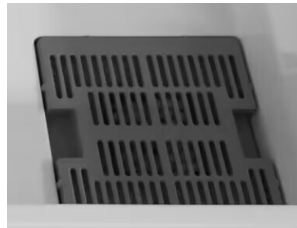

Figure 2
3. Silver ion filtration system, as shown in figure 2, which can make the water clear without yellowing and odorless after a long-term use.